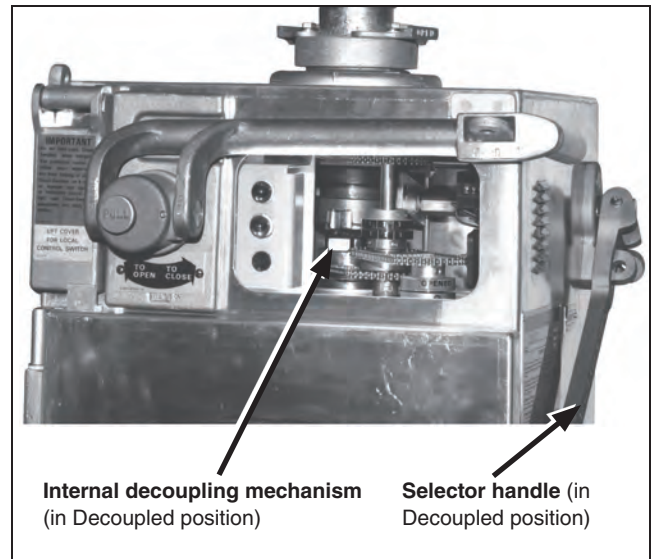
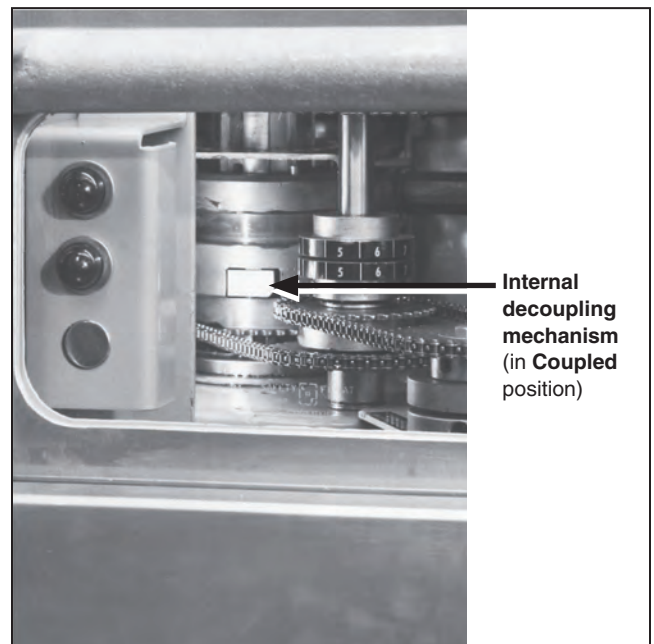

Figure 72. View of a decoupled switch operator through the observation window.
Figure 73. View of the coupled switch operator through the observation window.
**STEP 1.** Verify the disconnect is in the **Coupled** position by looking at the internal decoupling mechanism inside the Mark VI CS-1A Switch Operator. See Figure 72. If the switch operator is in the **Decoupled** position, manually operate the switch operator to bring it into the same position as the disconnect (**Open** or **Closed**). See Figure 73. For instructions on coupling the switch operator, refer to “Using the Selector Handle (Coupling and Decoupling)” on page 30.